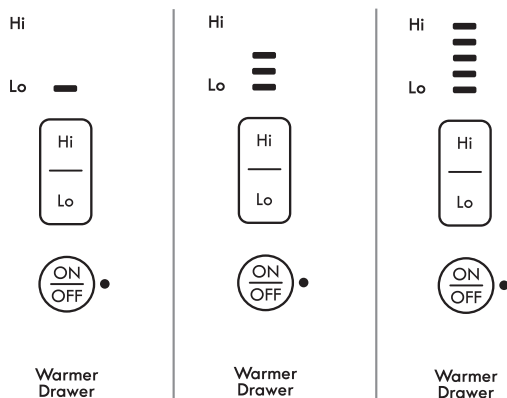

Figure 47: Setting desired temperature in warmer drawer
The warmer drawer control is located on the left side of the control panel. Use the warmer drawer control key to turn ON and OFF and make temperature adjustments. Available temperature settings are approximate, and are designated by Lo, Med, and Hi (Figure 47). If needed, refer to Warmer drawer recommended food settings provided in this section.
3. Press **Hi Lo** key to toggle to the desired temperature setting. Release when the desired temperature setting is displayed by the indicator lights. (Figure 47).